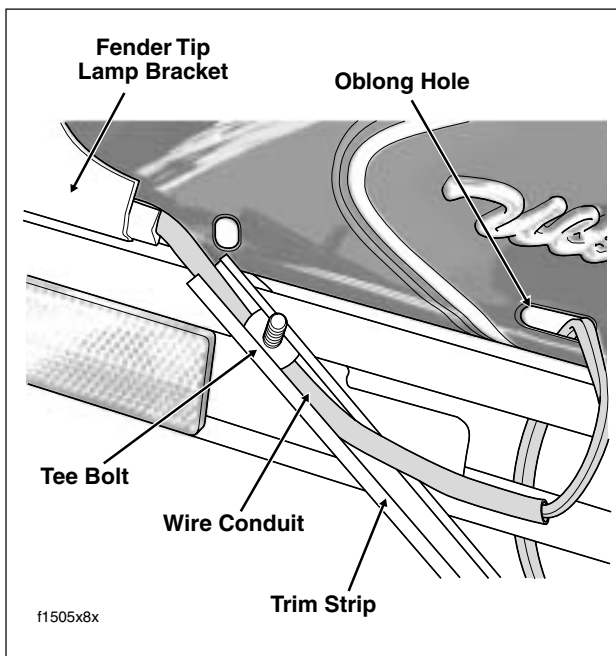

Figure 8-45. Install Conduit in Trim Strip
8. From inboard side of front fender, remove two nuts to release trim strip from left side of fender. See Figure 8-45.
7. Route wire conduit inside trim strip and slide front tee bolt over conduit. See Figure 8-45. Verify that second tee bolt is in position at rear of trim strip.